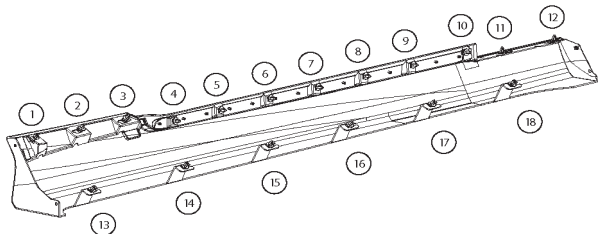

FIGURE 25
9. Insert supplied plastic retention clips into doghouses and living hinges of provided rocker cladding (18 per side). Refer to figure 25.
12. Starting at the front, engage plastic retention clips into mating holes along entire top edge of rocker cladding. Refer to figure 25.
13. Engage plastic retention clips into mating holes along entire bottom of rocker cladding. Engage snaps into mating holes, refer to figure 25.